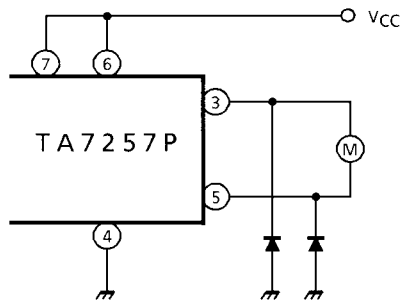

Figure 3
(3) Additional diode
- i) If the braking operation is so loose, connect a additional diode between each output to GND, (See Figure 3)